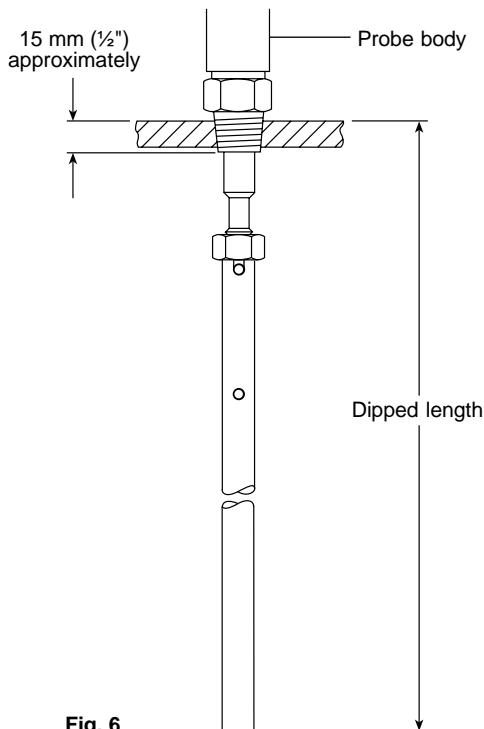

Fig. 6
- Use a fine hacksaw to cut the probe tip to this length (see Fig. 6).